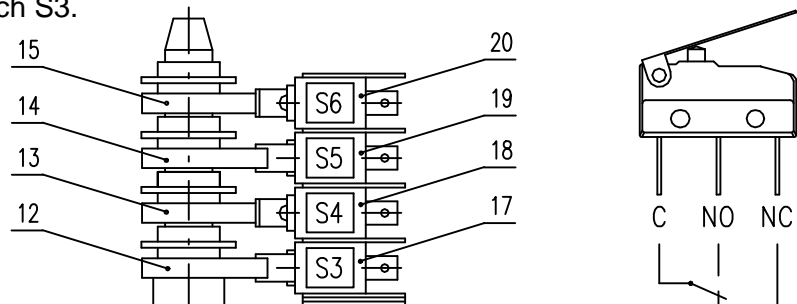

Fig.4
3.1 Adjustment of position switches (Fig.4)